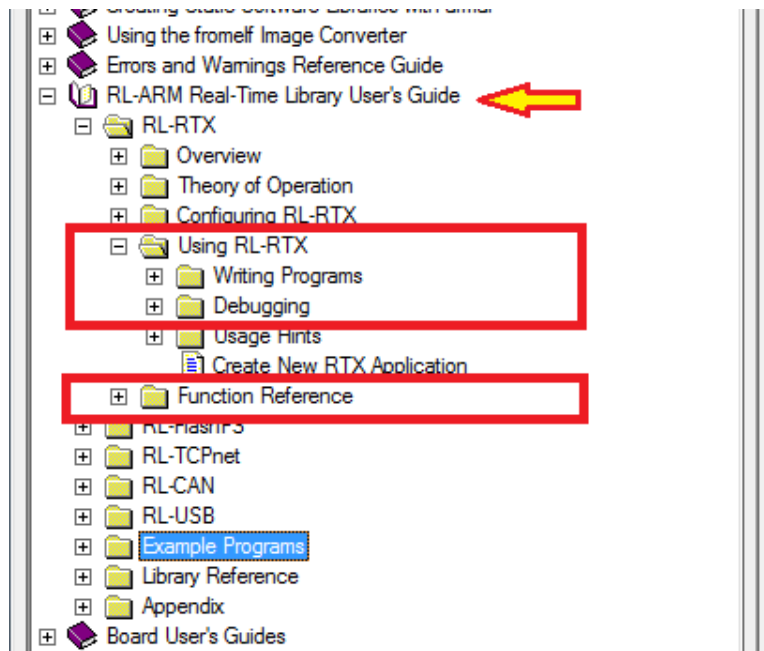

Figure 1.12: Keil IDE: RL-RTX Manual
3. Start a PuTTY terminal and make sure you have the correct configuration as shown in Figures 1.12(a) and 1.12(b).
The manual of the RL-RTX is accessible through the Keil MDK-ARM Help (see Figure 1.12). The highlighted sections are highly recommended to read through.